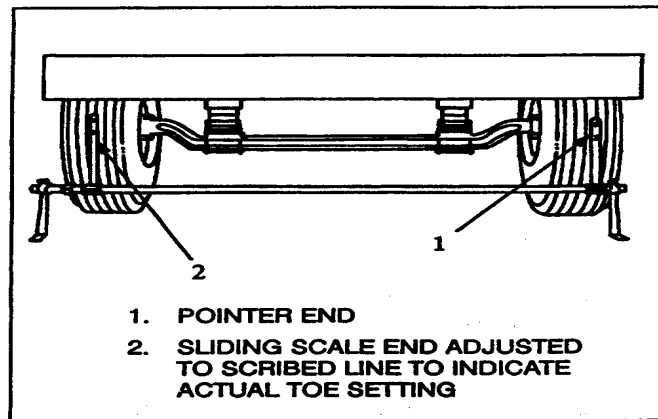

Figure 3
9. Put the trammel bar against the front of the tires so the pointer end is aligned against the scribed line on the front tire. Loosen and remove the sliding scale pointer on the opposite end of the trammel bar so it is also aligned against the scribed line on the opposite tire. Lock the scale in place (Figure 3).